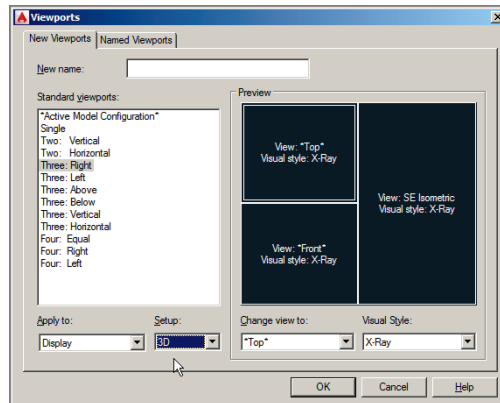

FIGURE 16.8 Configuring viewports
1. Type **VPORTS**, and press Enter. In the Viewports dialog box that appears, select **Three: Right** in the Standard Viewports list. Open the Setup drop-down menu, and select **3D** (see Figure 16.8). Click OK.